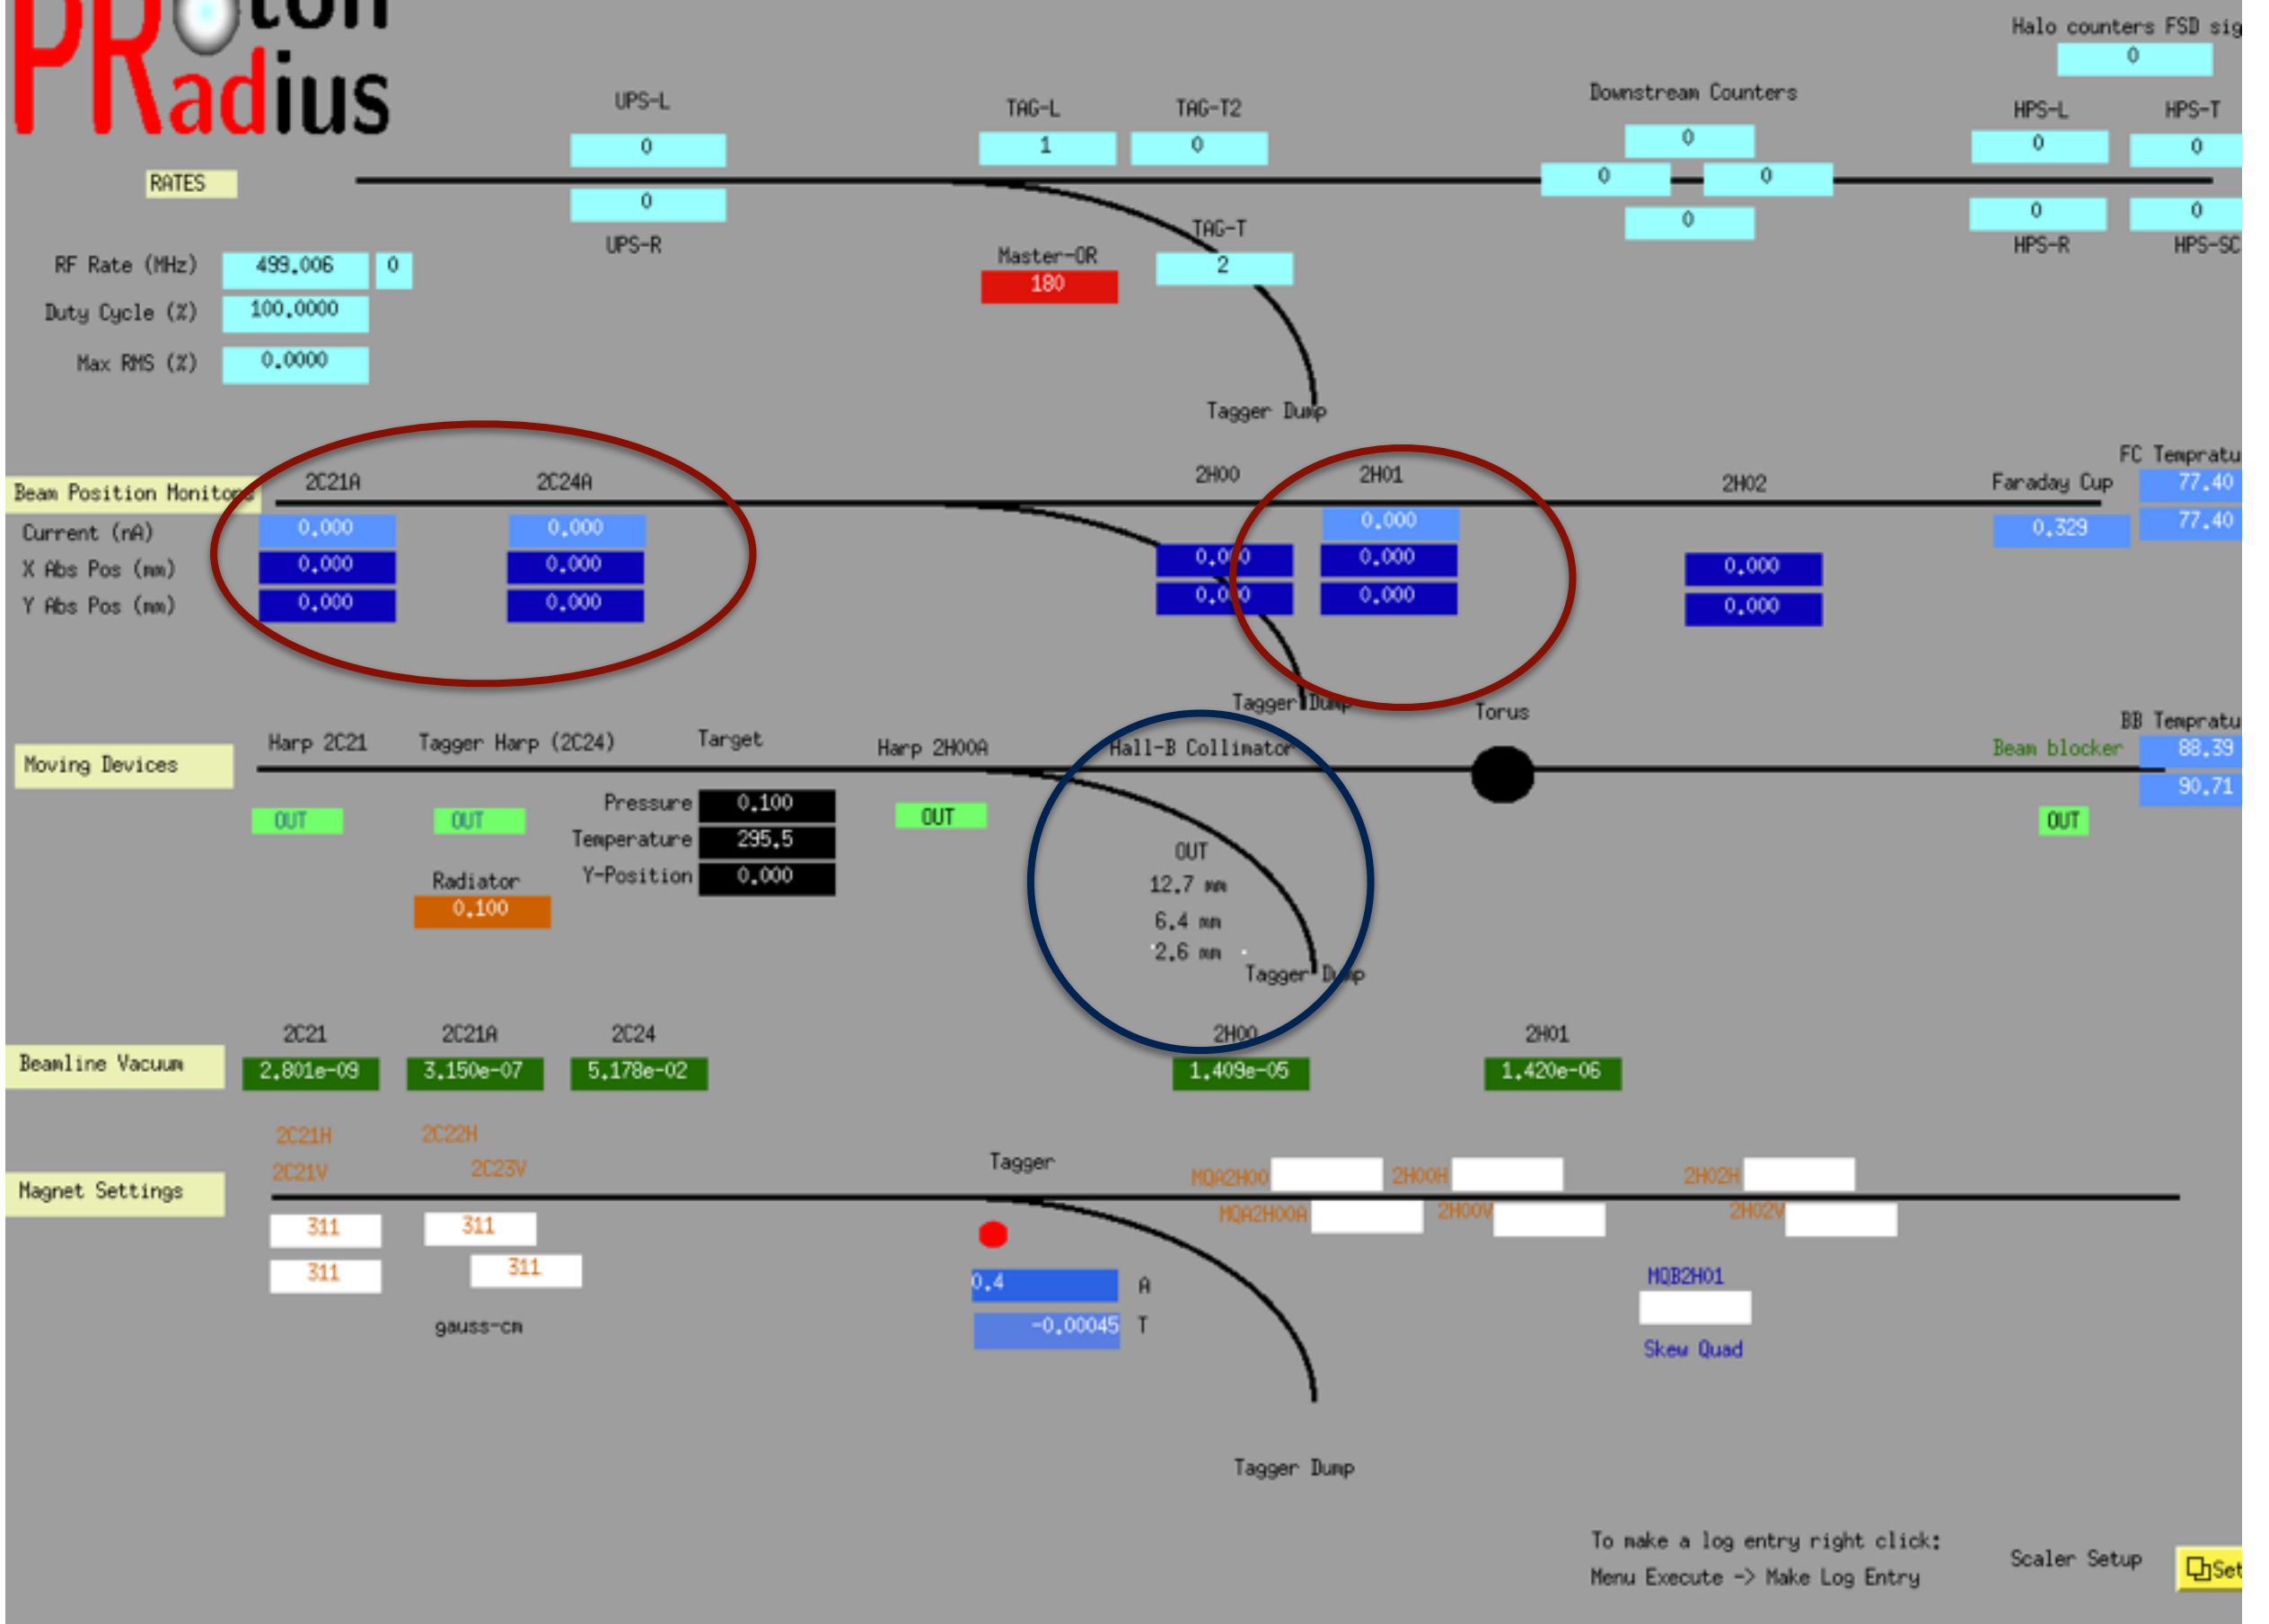

Fig. 3
- Beam positions X/Y on 2C24A, 2C21A and 2H01: Get from the PRad scalers GUI (usually on the top monitor of CLONPC16). See Fig. 3, marked by the red ovals.
- Collimator/Apperture position: Also from the PRad scalers GUI (See Fig. 3, marked by the blue circle).